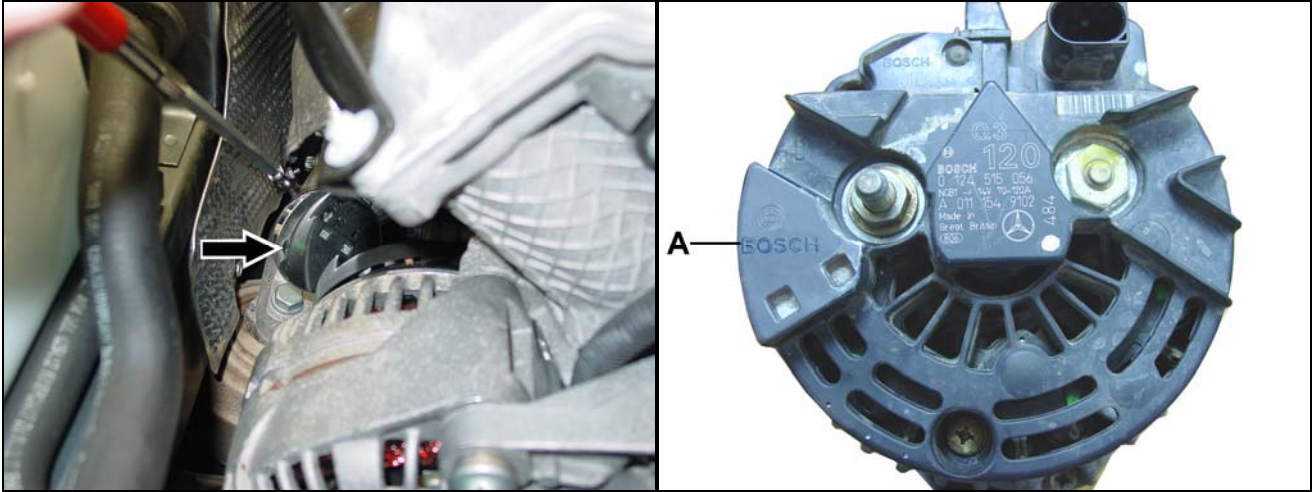

Figure 1
1. Vehicles with engine **112**: Check the manufacturer of the alternator using a mirror (arrow, Figure 1).